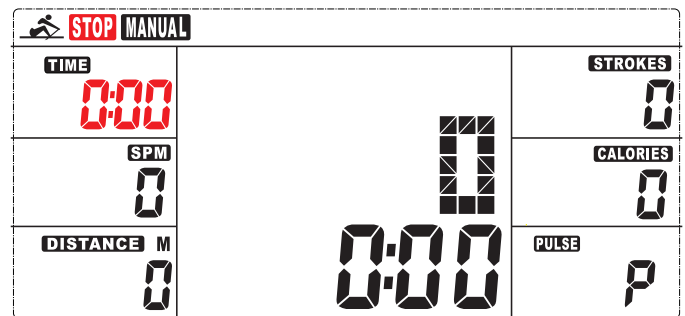

Fig. 6
1. **MANUAL (Fig.6):** There are 2 options in MANUAL mode.